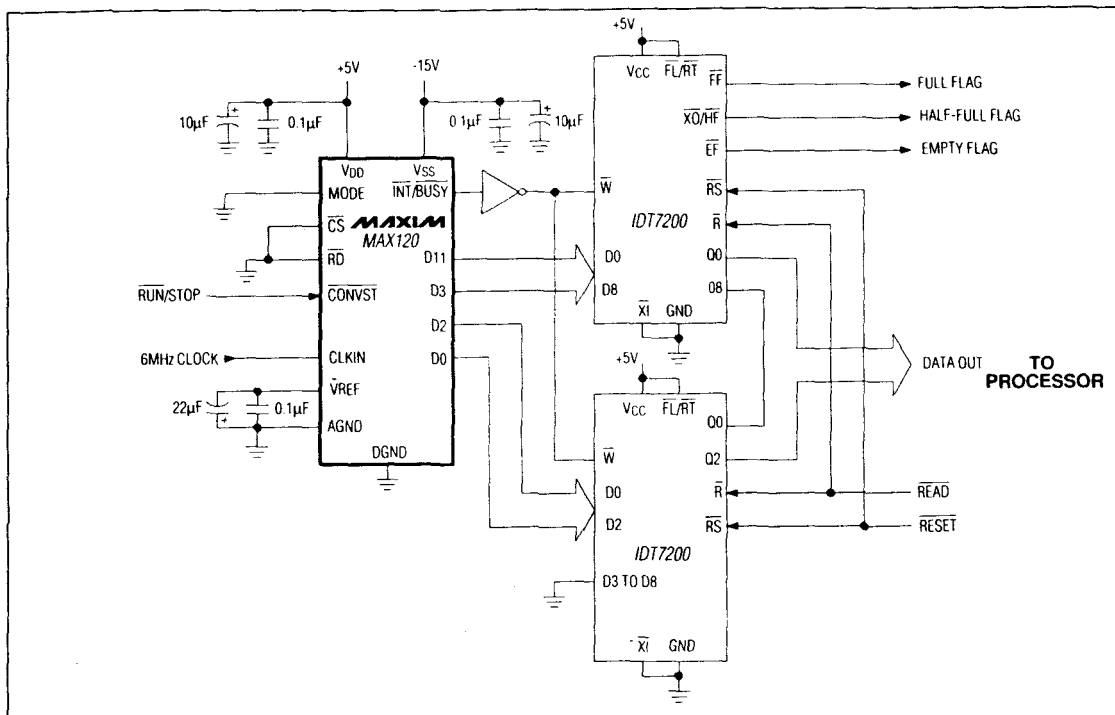

Figure 13. Using MAX120 with FIFO Memory
Using FIFO memory to buffer blocks of data from the MAX120 reduces μ P interrupt overhead time by enabling the μ P to process data while the MAX120, unassisted, writes conversion results to the FIFO. To retrieve a block of data, the μ P reads from the FIFO via a read-interrupt cycle. Read and write operations for the FIFO are completely asynchronous. Figure 13 shows the MAX120 operating in continuous-conversion mode (mode 5), writing data directly into the two IDT7200 256 x 9 FIFO buffers at the rate of 428kps. The μ P is interrupted to read the accumulated data by the FIFO's half-full (HF) flag approximately three times per millisecond. For operation at 500kps, use an 8MHz clock, and pulse CONVST at 500kHz. The full flag (FF) indicates that the FIFO is full. If this flag is ignored, data may be lost. If necessary, conversions can be inhibited by pulling \overline{CS} , \overline{RD} , or CONVST high. The FIFO's read cycle times are as fast as 15ns, satisfying most system speed requirements. The RESET input resets all data in the FIFO to zero.